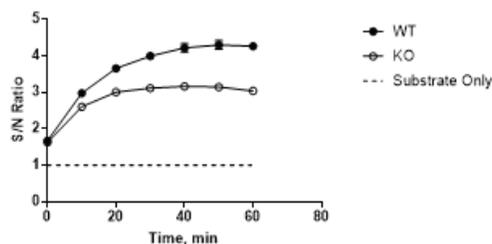

Figure 3. Mouse Plasma LPLA2 Activity
This kit detects human or animal LPLA2 activity in serum, plasma and urine as well as purified enzymes. LPLA2 activity differences were successfully detected between wildtype (WT) and LPLA2 (KO) mice plasma (Figure 3)².